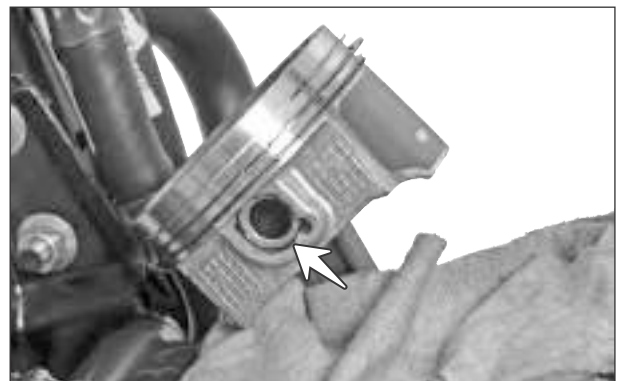

Fig. 3.83
- Remove the circlip pin piston from any one side of the piston. (Fig. 3.83)